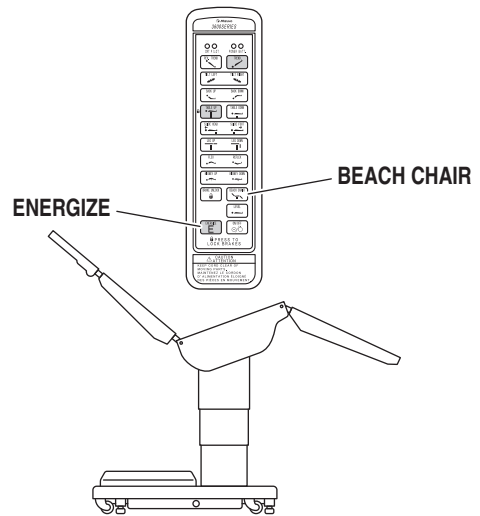

Figure 2-16. Beach Chair Positioning
k. Beach Chair To place the top in the beach chair position from a level position, press the ENERGIZE button and then the BEACH CHAIR button (figure 2-16). The back section will raise, the leg section will lower and the Trendelenburg positioning will function simultaneously. The functions will stop when Trendelenburg reaches its limit.